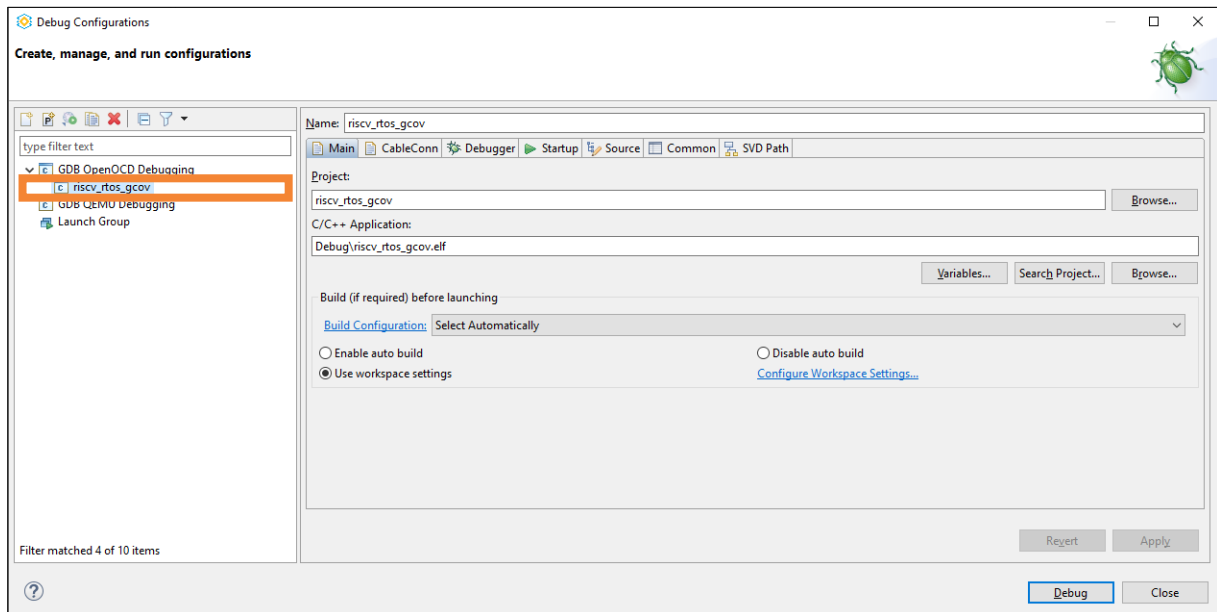

Figure 6.5. Debug Configurations Dialog 4
3. Select riscv_rtos_gcov in **GDB OpenOCD Debugging** (Figure 6.5).